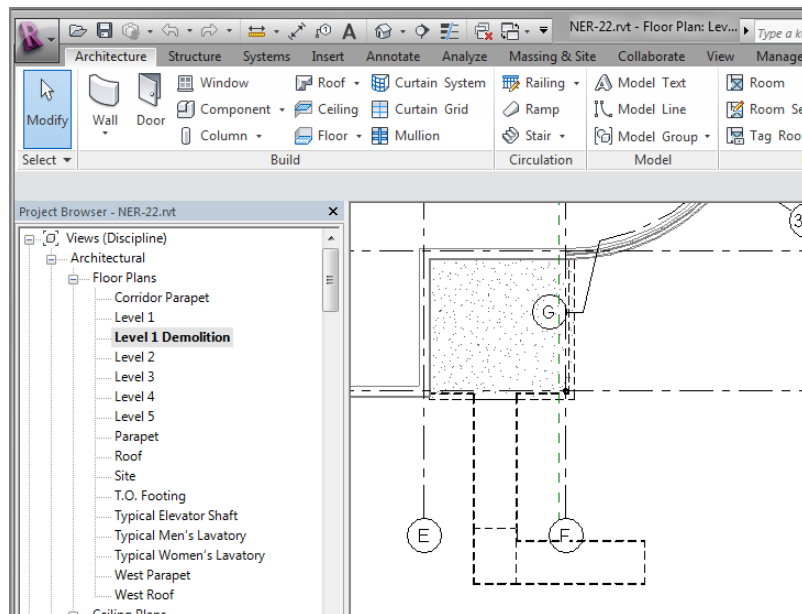

FIGURE 21.5: Seeing the results of demolishing an item
16. Zoom in on the east entry, specifically where the ramp enters the building to the south, as shown in Figure 21.5. Revit automatically changes the line weight to Heavy and the line type to Demolished.